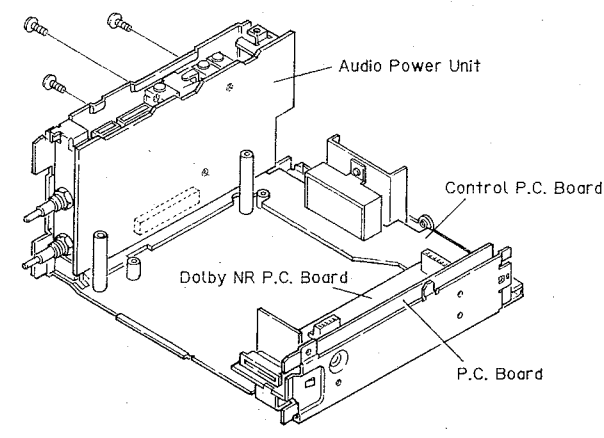

Fig. 12
- **Removing the Audio Power Unit (Fig. 12)**
- **Removing the P.C.Board (Fig. 12)**
- **Removing the Dolby NR P.C.Board (Fig. 12)**